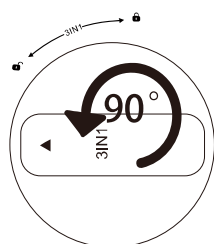

Figure 6
4. Rotate the old filter element for 90° anti-clockwise quickly, as the triangle icon on top of filter element pointed at ☹ icon, take out the old element(As Figure 6).